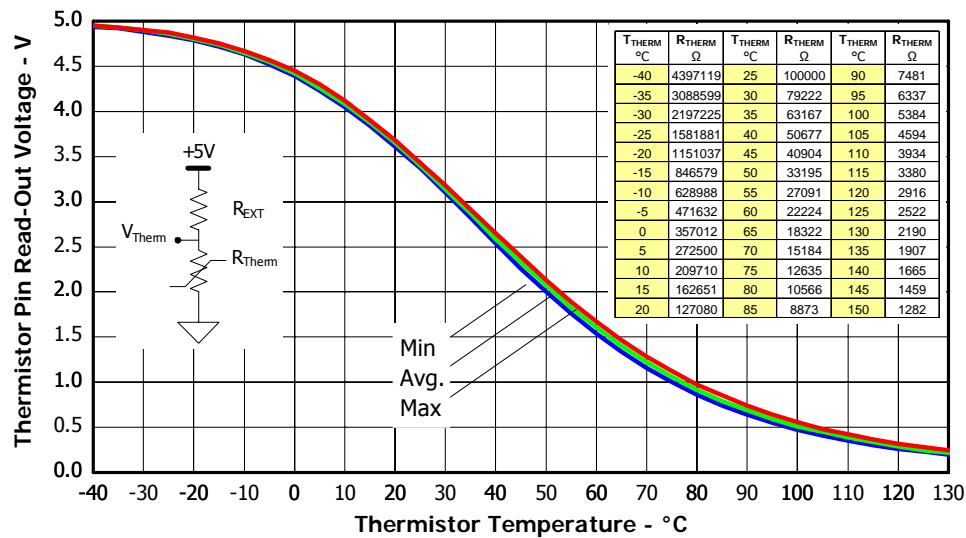

Figure 9. Thermistor Readout vs. Temperature (47kohm pull-up resistor, 5V) and Nominal Thermistor Resistance values vs. Temperature Table.
3. Value of the boot-strap capacitors depends upon the switching frequency. Their selection should be made based on IR design tip DN 98-2a, application note AN-1044 or Figure 9. Bootstrap capacitor value must be selected to limit the power dissipation of the internal resistor in series with the  $V_{CC}$ . (see maximum ratings Table on page 3).